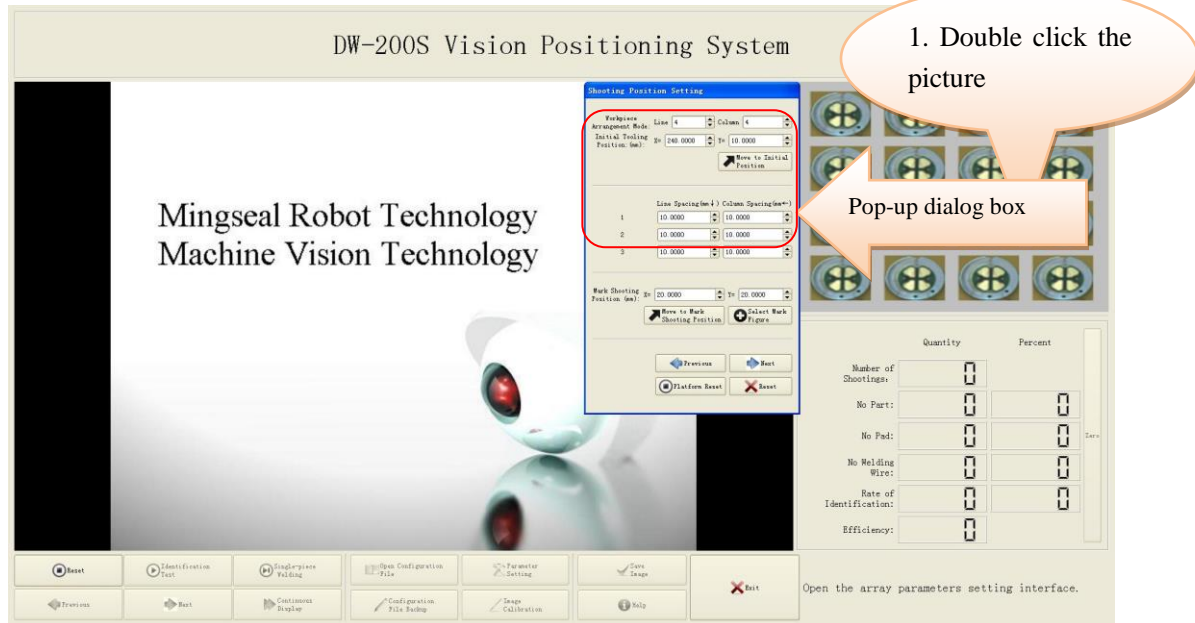

Fig. 4 Array Mode Setting Window
- (1) Fully load the tooling plate with parts, and then place it onto the loading platform;
- (2) Reset;
- (3) Double click the part arrangement mode picture at the upper right corner of the interface, and set relevant parameters in the pop-up dialog box as shown in Fig. 4;